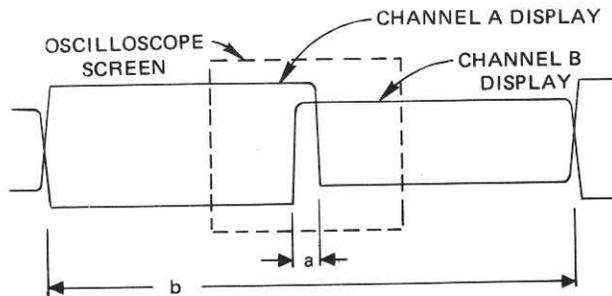

Figure 4-1. Alternate Time Symmetry Test Setup
1. Set the frequency dial to maximum cw, the FREQ (Hz) switch to X 100K and the WAVEFORM selector to . Connect 50 $\Omega$  OUT (HI) to the oscilloscope.
- Set the oscilloscope time base to 0.2 ms/division. Adjust the FREQ VERNIER control until the oscilloscope screen is filled by approximately one cycle (see setup and display in Figure 4-1).